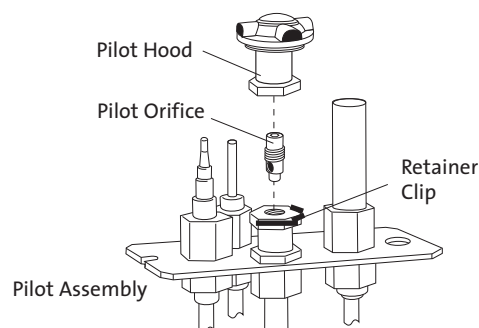

Figure 16. Pilot Orifice replacement.
- Disengage the Pilot Hood by releasing the retainerclip as shown in Fig. 16. Using a 4 mm allen wrench, unscrew the pilot orifice (counterclockwise). Replace with the orifice from the kit. Tighten new orifice securely into the base of the pilot assembly.